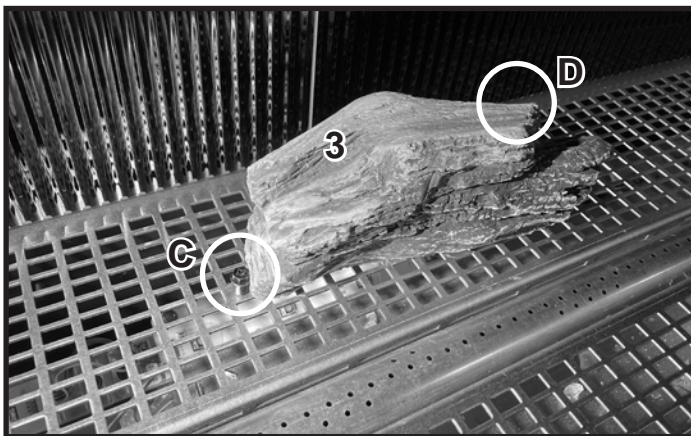

Figure 3 Install Log #3
**Log #3:** Place the left side of Log #3 against log pin (C). Pivot the right side of the log backward until it contacts the log pin (D) at the rear (black glass refractory and see-through installations) or the fiber refractory. See Figure 3.